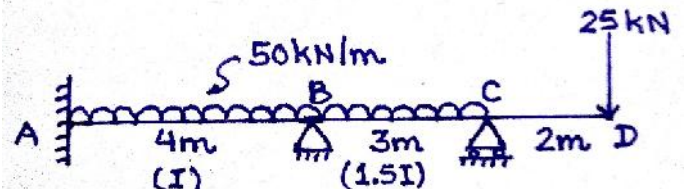

Figure 8
B) Analyse the beam shown in the **Figure 8** below by stiffness member approach and plot SF and BM diagram. (08)